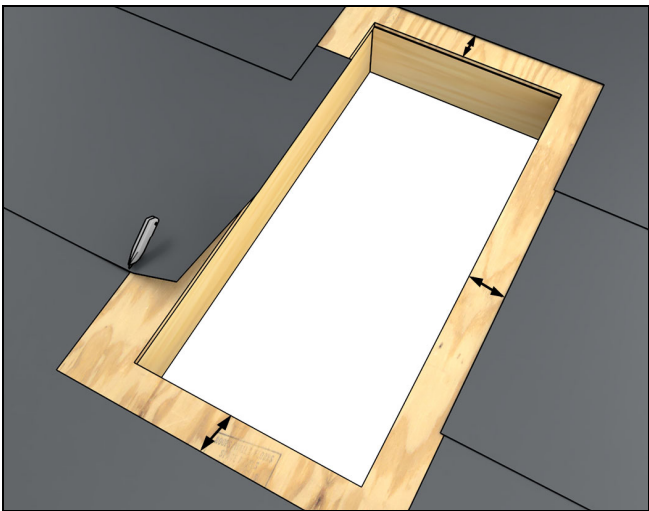

Figure 5
3. Remove 6" of existing roofing and underlayment around the rough opening as shown in Figure 5.